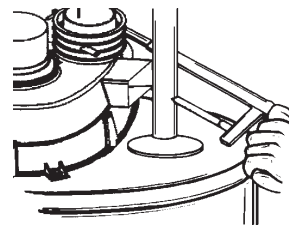

FIGURE 7.
6. If you have copper piping to the water heater, the two copper water pipes can be cut with a hacksaw approximately four inches away from where they connect to the water heater, see Figure 7. This will avoid cutting off pipes too short. Additional cuts can be made later if necessary. Disconnect the temperature-pressure relief valve drain line. When the water heater is drained, disconnect the hose from the drain valve. Close the drain valve. The water heater is now completely disconnected and ready to be removed.